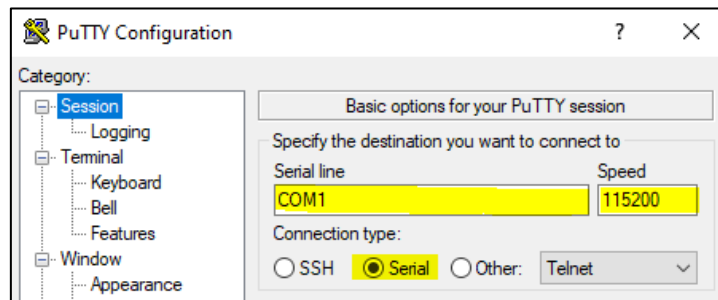

Figure 7 COM port choice
3. Set everything as marked in yellow in Fig. 7 "Com Port Selection".